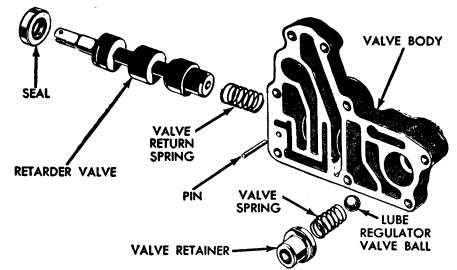

Fig. 37 Hydraulic retarder valve
5. Assemble the valve in the reverse order of removal, referring to Fig. 37. The lube regulator valve retainer should be pressed in until the large diameter is flush with the mounting surface to .030" maximum below the surface of the valve body.